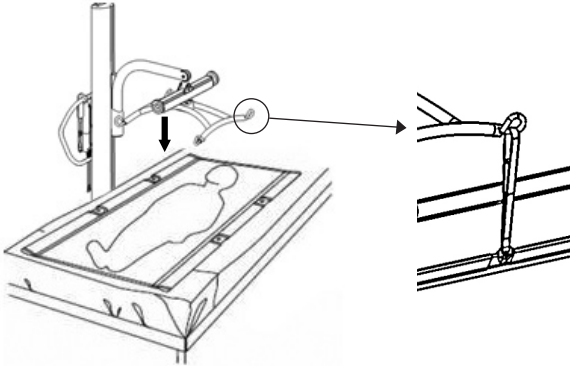

Fig. 15
8. Carefully lower the boom of the hoist so that the Stretcher Adjustment Cradle is directly above the patient in a position that the Canvas Stretcher suspension straps can be easily attached to the Stretcher Adjustment Cradle. (see Fig. 15).